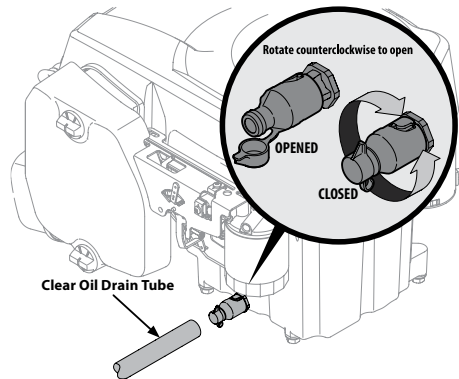
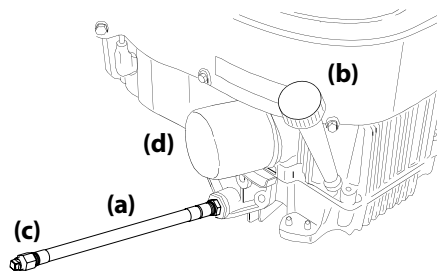

Figure 4-1
Figure 4-2
- Your engine is equipped with either a twist-and-pull oil drain (see Figure 4-1 and go to Step 5.) or a removable oil drain hose plug (see Figure 4-2 and go to Step 6.) Follow the applicable instructions for your tractor.
- Twist-and-pull oil drain (refer to Figure 4-1):
- Removable oil drain hose plug (See Figure 4-2):
- While holding the free end of the oil drain hose (a) over the oil collection container, unscrew the square head hose plug (c) from the end of the oil drain hose (b). See Figure 4-2. Drain the engine oil into the collection container.